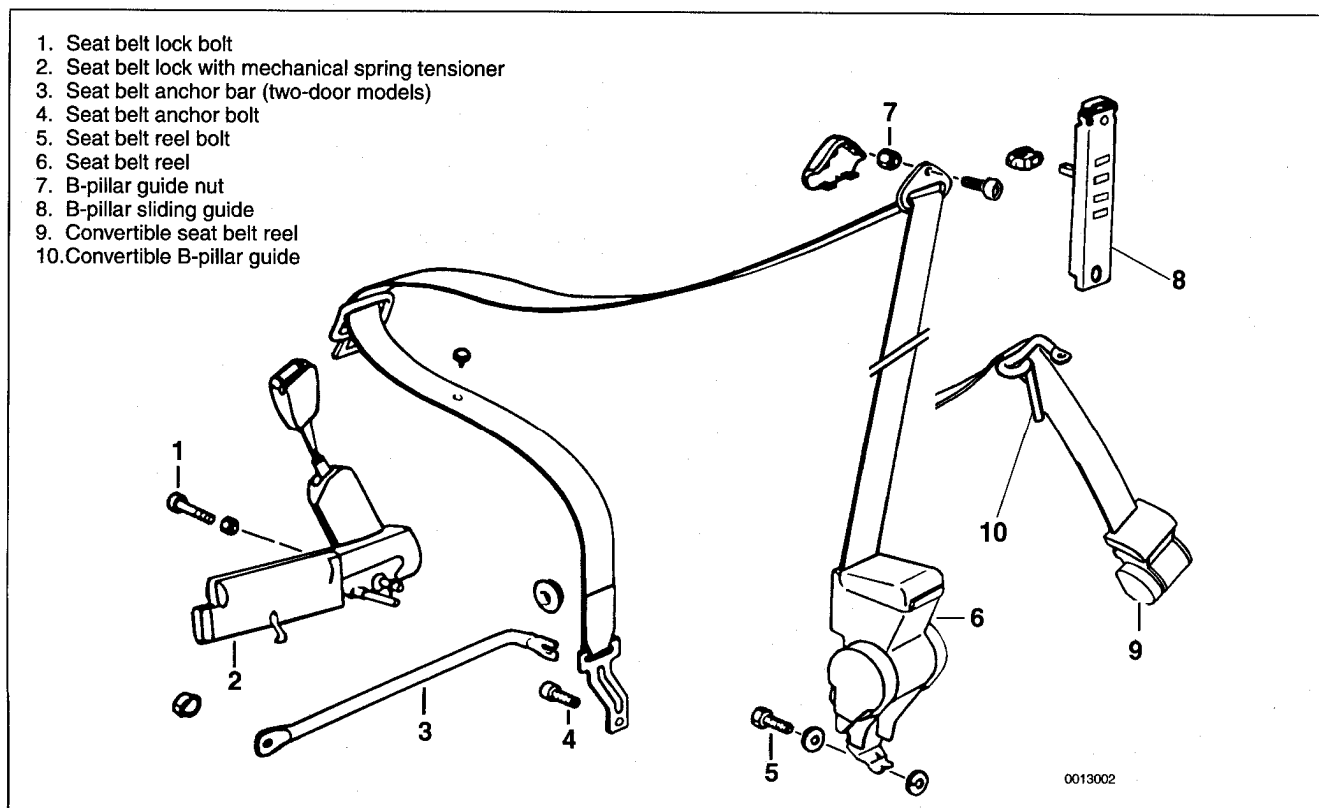

Fig. 1. Front seat belt components.
1. On 4-door models: Remove seat belt anchor bolt from front seat. Refer to Fig. 1.
Automatic seat belt tensioners are integrated into the front seat belt locks. Through the 1996 model year cars, a mechanical spring tensioner is used. See Fig. 1. On 1997 and later cars, a pyrotechnic (explosive charge) tensioner is used. Automatic seat belt tensioners are designed to automatically re-